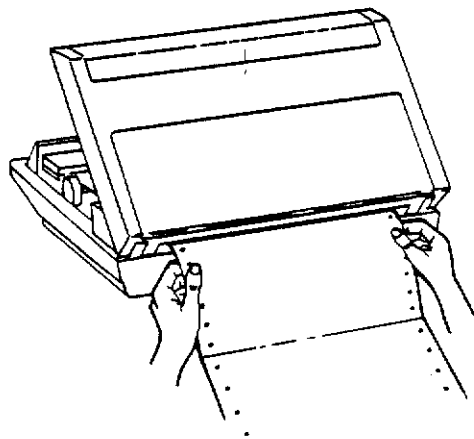

Figure 2-11. Rear Paper Opening.
4. Feed the paper in through the rear paper opening, shown in figure 2-11, until the end is just in front of the tractor feed.